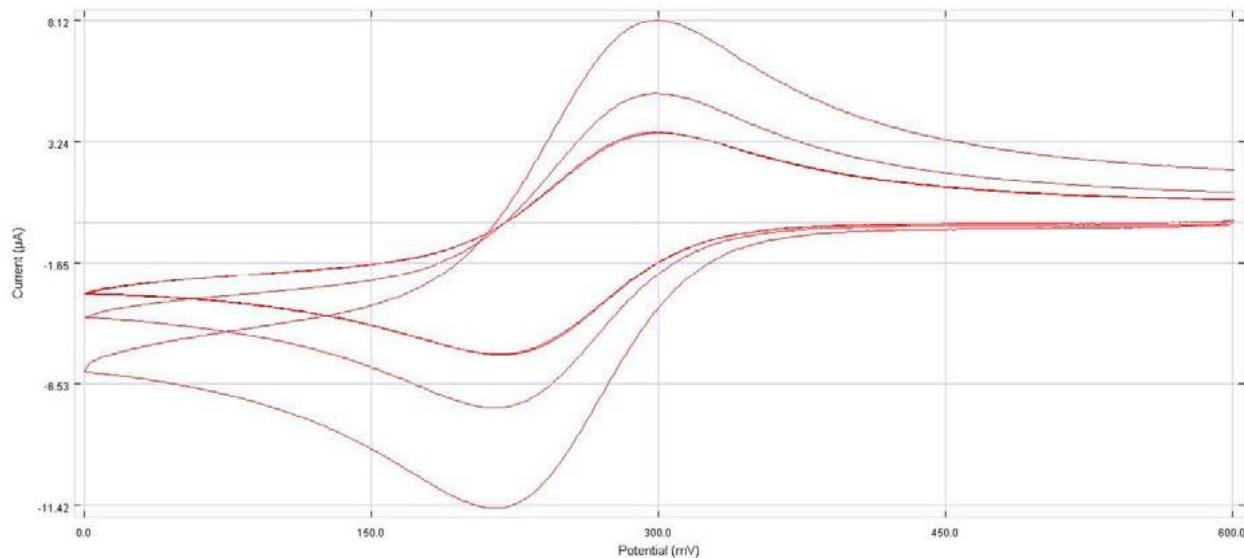

Figure 7 - Overlaid cyclic voltammograms
9. The three data sets run at different scan rates can be displayed on the same sets of axes using the **File Overlay** function in the **Graph** menu. All open *.edata files will be added to the overlay (Figure 7).